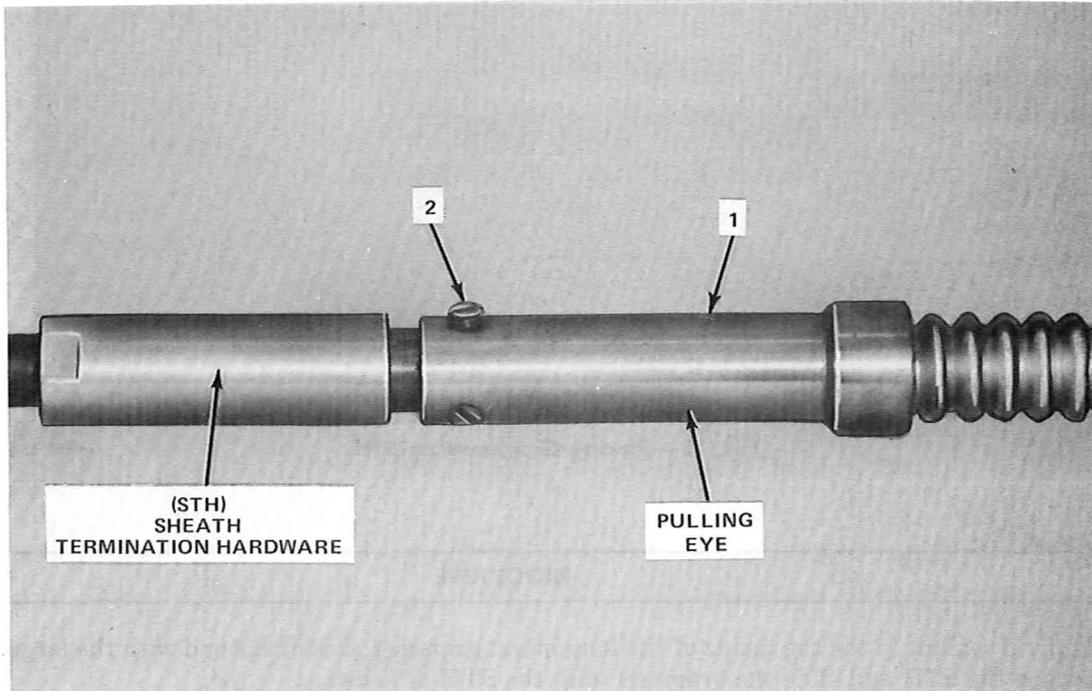

Fig. 12—Removing Pulling Eye
4.06 Prepare cable with STH as outlined in Fig. 12 through 15.